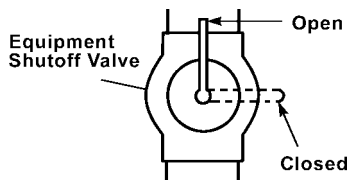

Figure 14 - Equipment Shutoff Valve
1. Close equipment shutoff valve (see Figure 14).
3. Check all joints from propane/LP supply tank to equipment shutoff valve (see Figure 14). Apply mixture of liquid soap and water to gas joints. Bubbles forming show a leak.
1. Open equipment shutoff valve (see Figure 14).